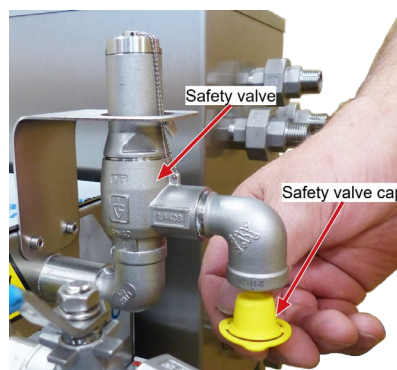

Fig. 3 Safety valve cap
4. Remove the safety valve cap (Fig. 3).